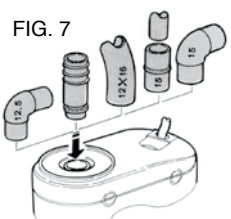

FIG. 7
**INTERCHANGEABLE OUTLET** (fig. 7): The flat output can be removed and replaced by the tube adapter supplied as standards or by elbows which are commonly found in stores such as: